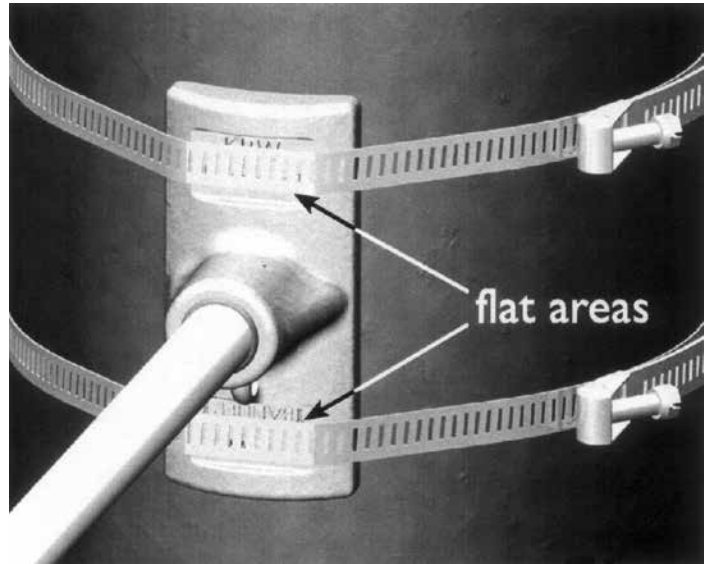

Figure 1
- ❶ Mark the utility pole at desired height.
- ❷ Install top arm first. Hold the casting up to the pole so that the word "BANNER" with arrows points **DOWN**. Wrap banding around pole at both the top part of the casting and the bottom part of the casting. Position the banding so that it goes over the flat areas on the casting. **See Figure 1.**
- ❸ Tighten the screw gear banding with a screwdriver. If using Band-It banding, tighten according to the instructions provided with the Band-It tool. The banding should be tightened down onto the flat areas on the casting and cover the words "BANNER" and "KBW".
- ❹ Slide banner (top hem) on arm. Slide banner on grommeted side first. Completely cover the metal sleeve at base of arm so banner is very close to the pole casting.
- ❺ Now you are ready to mount lower arm. Pull banner down to mark pole for location of bottom casting/arm assembly. Be sure that the word "BANNER" with arrows points **UP**. Mount bottom casting low enough to ensure that the banner will be held tight.